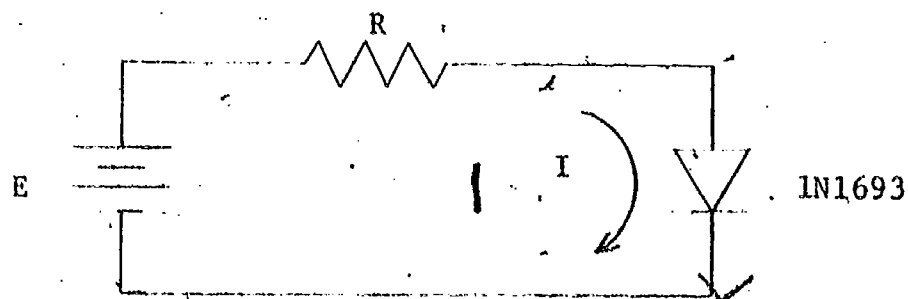

Figure 3
4. As an application in the use of the diode IV curve, let us consider the circuit of Figure 3.
Since the resistance of the diode is a variable quantity it is not easy to predict by analytical methods the current I , which flows in the circuit of Figure 3. It is possible to predict the value of current by graphical methods. There are two general graphical solutions. These are: